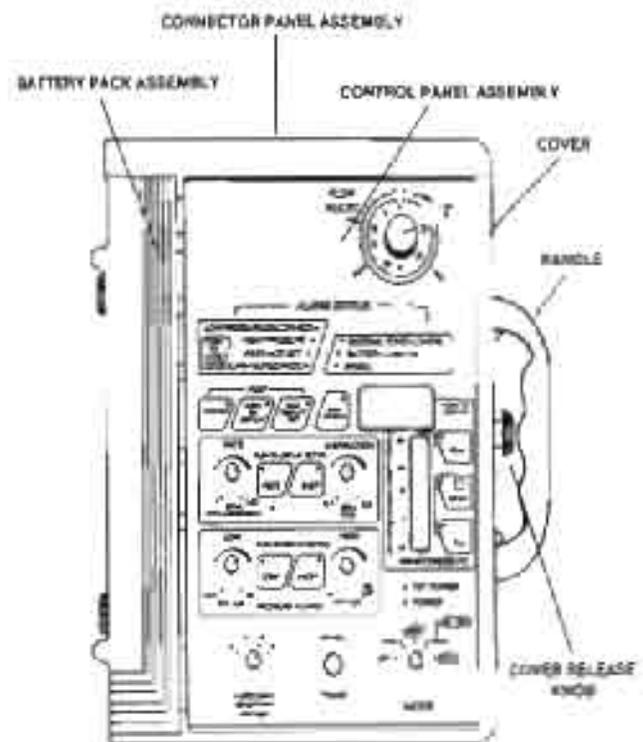

Figure 1-2 Control module.
- a. *Control module (fig 1-2).* The control module incorporates a handle, a cover for the control panel, a cover for the battery pack assembly, and other assemblies which contain the various controls, indicators, displays, and connectors. The MODE selector switch is also the power switch to start or stop ventilator operation.